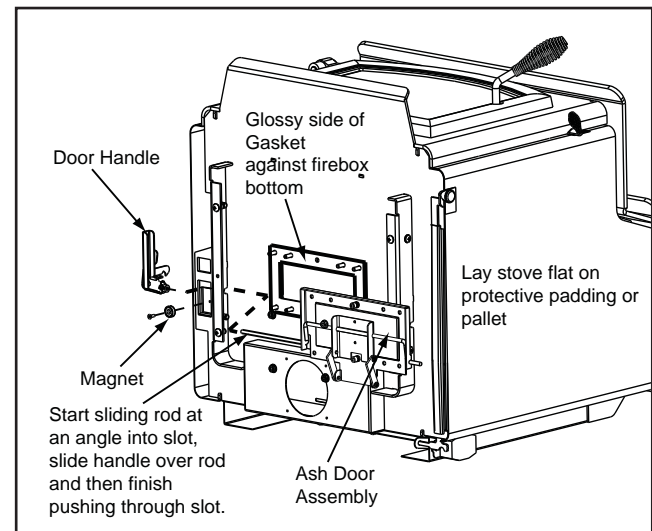

Figure 22.2
It is important the gasket is not put on upside down as it could compromise its sealing capabilities. Figure 22.2.
Slide the ash door over the 8 screws protruding from the bottom of the stove. Secure with nuts and washers provided. **Figure 22.2.**
6. Install magnet using a Phillips head screw driver. This magnet will hold the door handle in an open position which in turn holds the ash door open so ashes can be brushed into the ash drawer. **Figure 22.2.**
1. Follow steps 1 through 6 on page 22. See also **Figures 22.2 and 22.3.**
- Follow steps 1 through 3 on **page 22**. See also **Figure 22.2**.